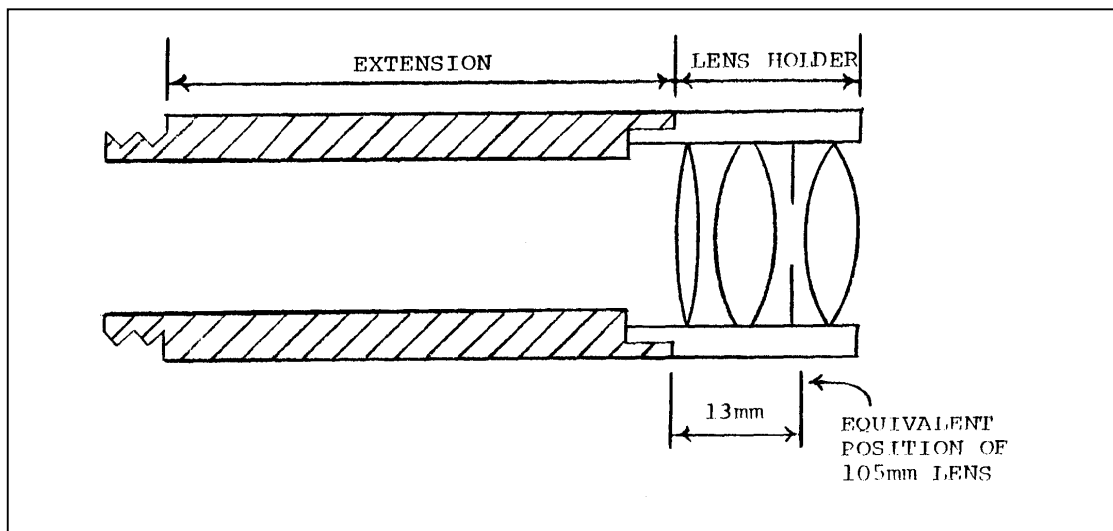

Figure 5
*Figure 5* shows that the equivalent 105mm lens cannot be considered to be located exactly at the end of the extension tube. Its equivalent position is, in fact, approximately 13mm further along the optical axis than the position used in the calculations. This positioning of the lens in its diaphragm varies with different manufacturers and no one rule will solve the problem.